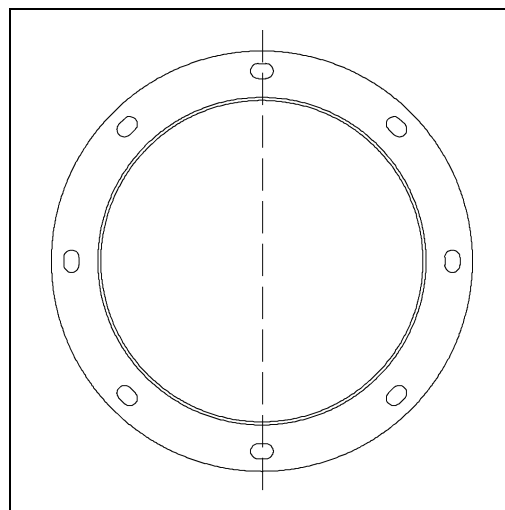

Figure 4C
- Insert the unload tube through the wall to the center of the bin. Secure the tube in the clamp of the center well using the 5/16" x 1-1/4" bolts and nuts. **NOTE:** For proper mounting of the powerheads, one set of holes in the flange ring must be aligned vertically. (See Figure 4C.)